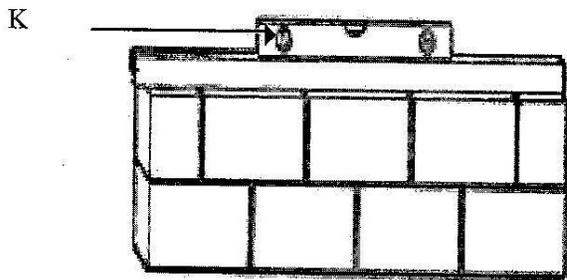

Fig. 3
Use figure 3 (below) to answer questions 22 and 23
22. Figure 3 shows the process of